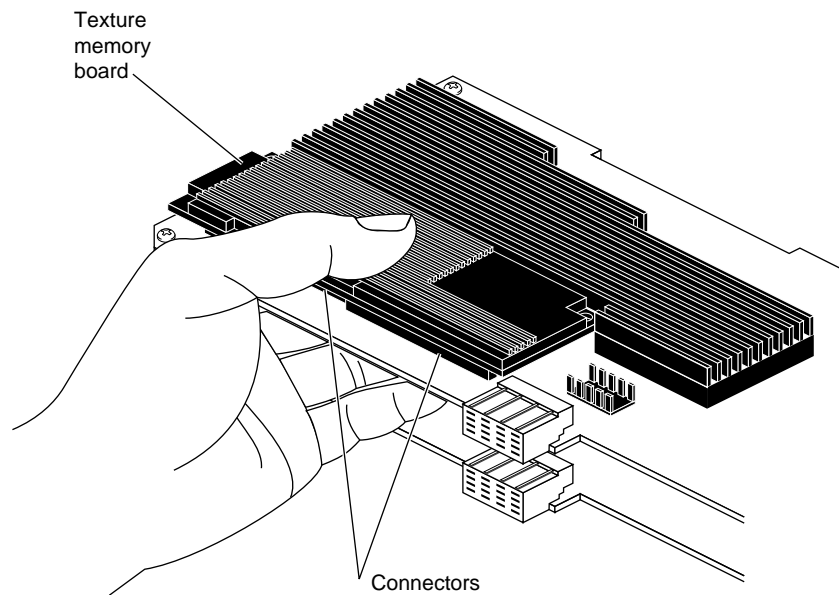

Figure 5-29 Seating the Texture Memory Board
- Place your fingers under the top graphics board and your thumb on top of the texture memory board. See Figure 5-29.